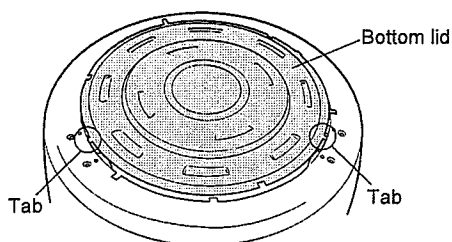

Fig. C-2
1. Remove the one screw holding the bottom lid. Remove the two screws holding the leg, then remove the bottom lid. (Fig. C-2)